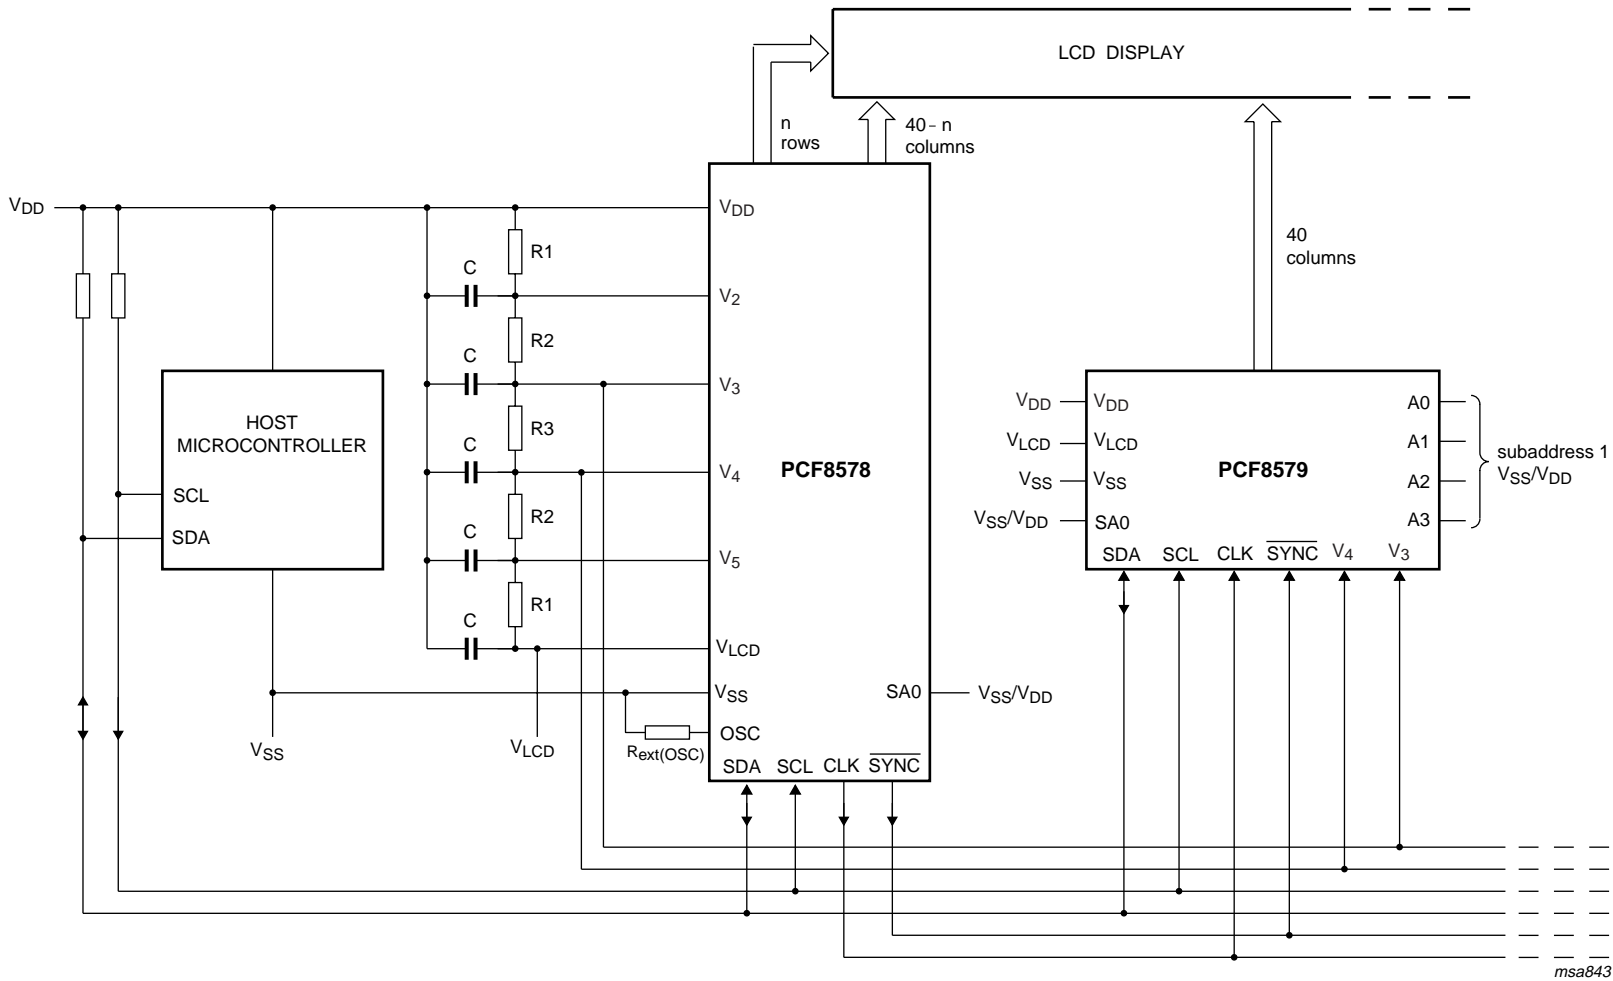

Fig 5. Typical mixed mode configuration
Bias levels may be generated by an external potential divider with appropriate decoupling capacitors. For large displays, bias sources with high drive capability should be used. A typical mixed mode system operating with up to 15 PCF8579s is shown in Figure 5 (a stand-alone system would be identical but without the PCF8579).
Table 5 shows the relative values of the resistors required in the configuration of Figure 5 to produce the standard multiplex rates.
**Table 5. Multiplex rates and resistor values for Figure 5**